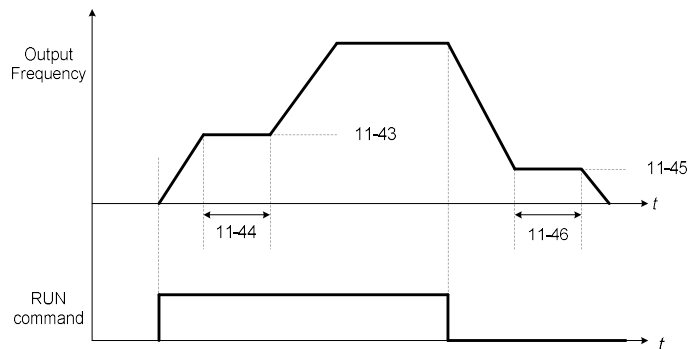

Figure 4.3.121 Hold Function
- Refer to the diagram below (Figure 4.3.121) for the behavior of multi-function digital outputs (03-11~03-12) when the analog frequency command is lost.